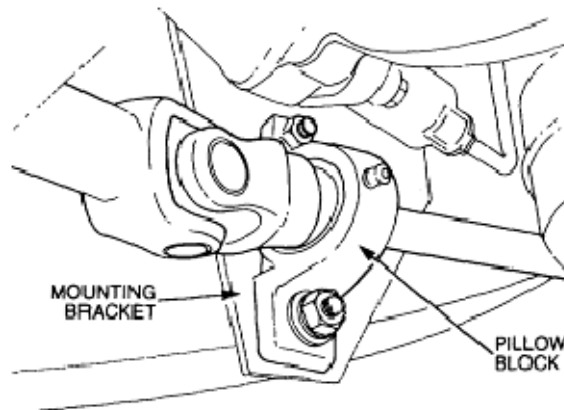

Figure 203 Pillow Block Installation
- i. Position the pillow block on the mounting bracket bolts (Figure 203).